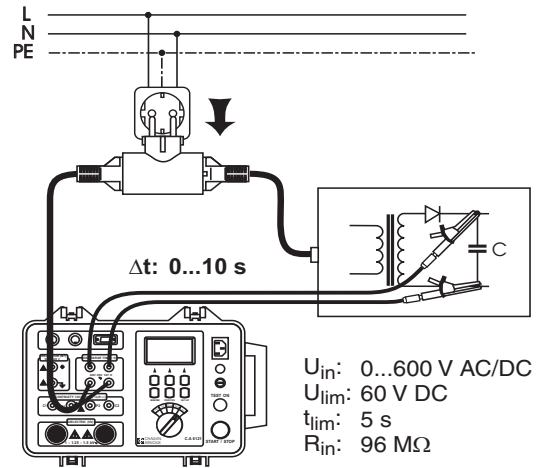

Fig.26. Connection of the test leads
2. Select 4-pole system by pressing the SYST. key (4-point 5s is displayed)
3. Connect the test cables to the instrument and to the tested unit in accordance with figure 26; le  symbol is displayed above unit S, informing the user that the mains voltage is connected to the MAINS TEST input.